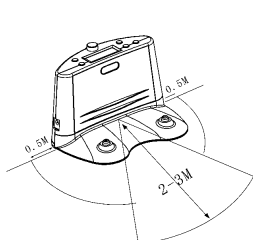

Figure 1
02. Make sure that no obstacle and uneven ground in the area within 3 meters in front of the base and 0.5m respectively on the left and right of it. (See figure 1)